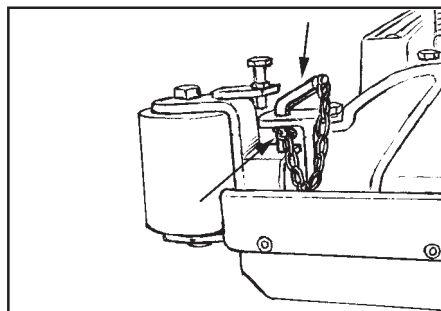

Figure 30
6. Remove the side brush skirts by removing the hair pin and mounting pin (see figure 30 and 30A).
2. Install front mounting pin and insert hair pin (see figure 30 and 30A).
1. Loosen the lock nut on the vertical adjusting bolt located next to the front mounting pin (see figure 30).